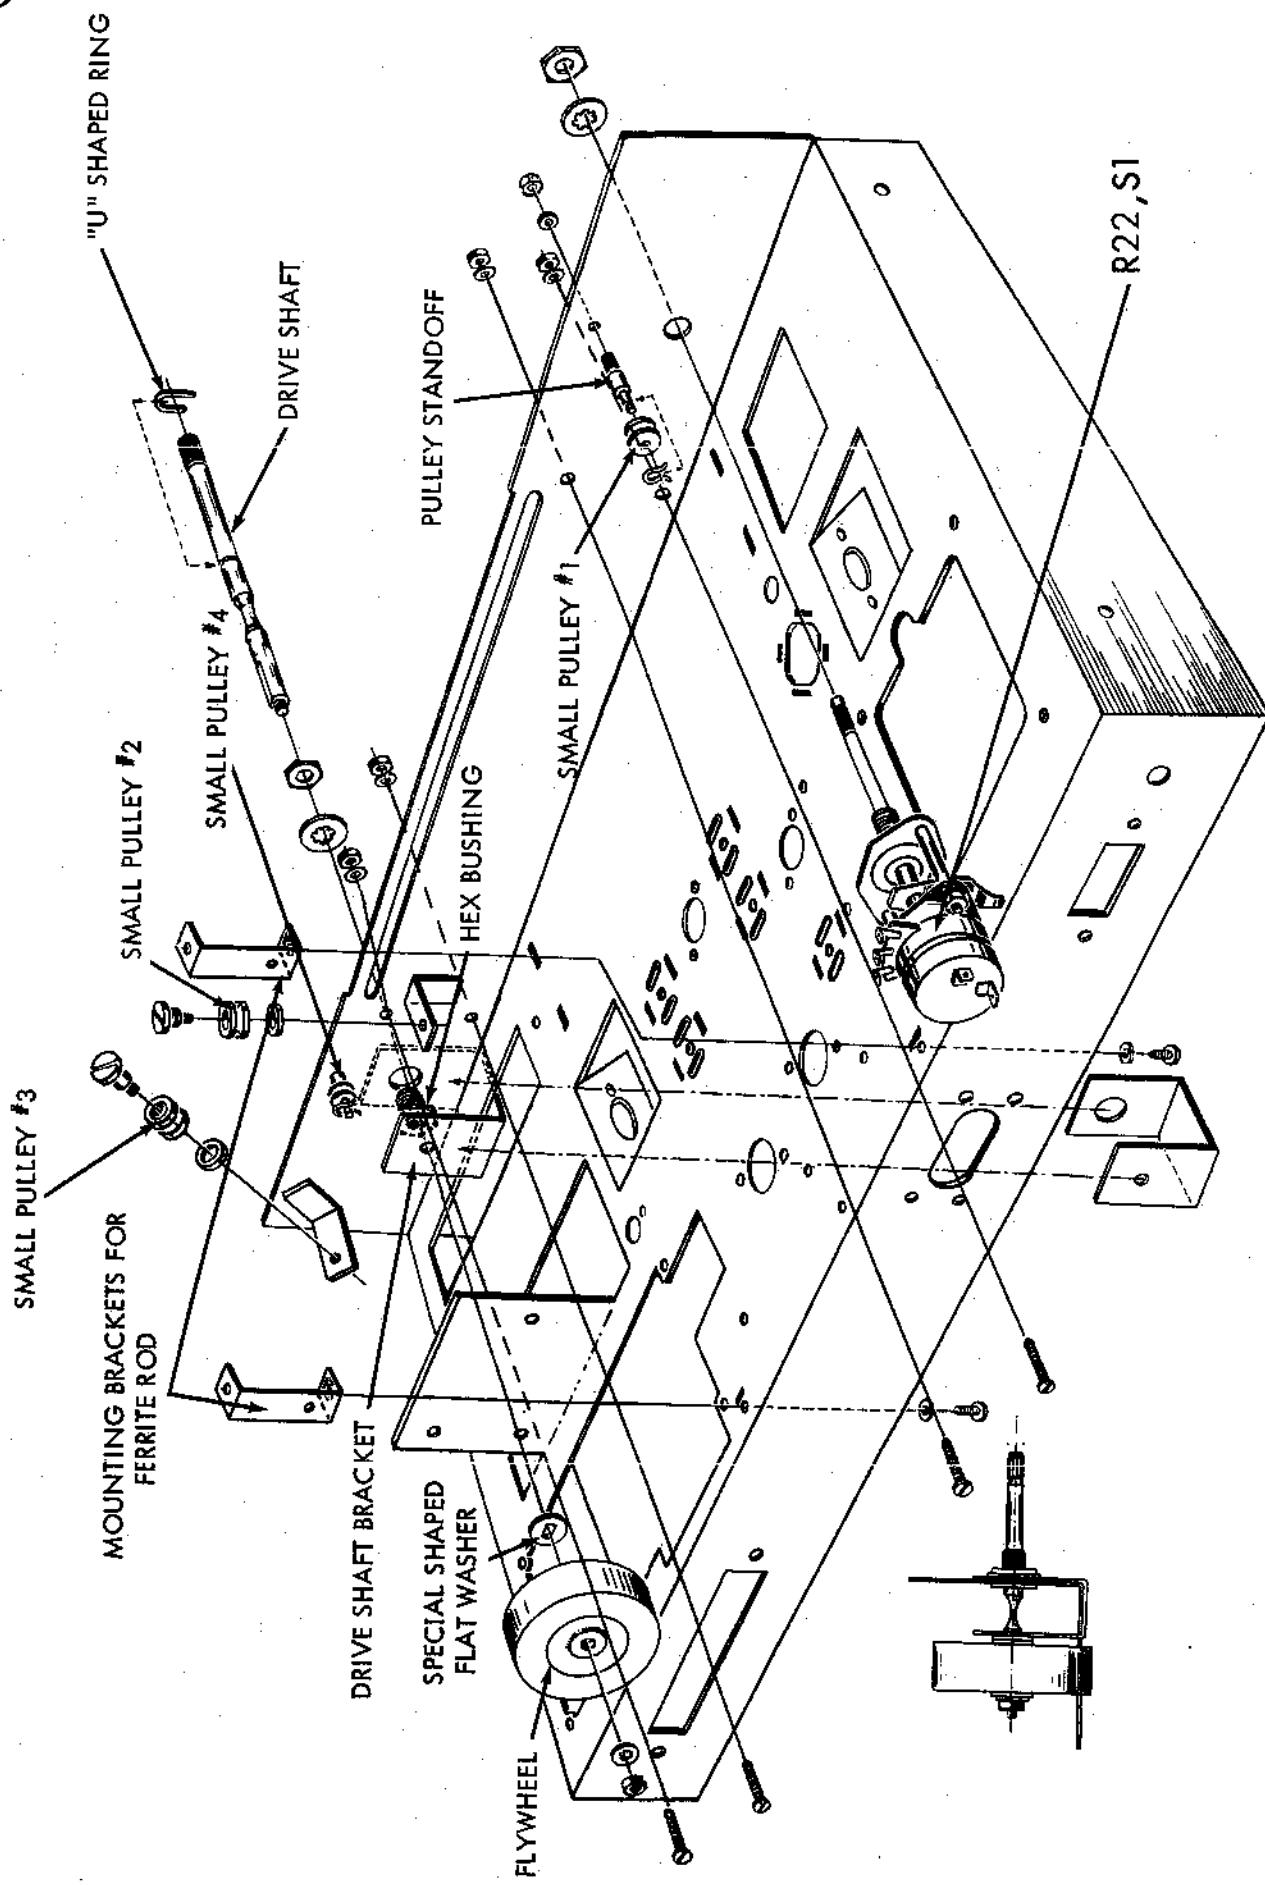

Fig. 1
- (a) 1. Fig. 1. Mount the drive shaft bracket from below the chassis as shown. Set the bracket in position so that the leg with the large hole rests against the front side of the chassis apron. Secure the 3/8 hex bushing (and the drive shaft bracket) in position with a 3/8 lockwasher and a 3/8 hex nut. Note that the leg with the larger hole against the front apron is mounted from the outside of the chassis. The bottom part of the bracket is below the chassis. Only the leg with the smaller round hole sticks out inside above the chassis and comes through the rectangular hole in the chassis.
- (b) 2. Fig. 1. Mount the potentiometer and switch combination, R22, S1, as shown. Note the lever from the shaft of the potentiometer extends through the rectangular hole underneath the component. Secure to the front chassis apron using one #3/8 lockwasher and one 3/8 hex nut.
- (c) 3. Fig. 1. Just above the potentiometer switch combination, R22, S1, mount the pulley standoff to the chassis. Use one #6 lockwasher and one #6-32 hex nut.
- (d) 4. Fig. 1. On the thin shaft of the standoff, mount the small pulley #4. Use a cotter pin to secure the pulley to the shaft.
- (e) 5. Fig. 1. Similar to steps numbers 3 and 4, mount the Small Pulley #4 on the front apron of the chassis, as shown.
- (f) 6. Fig. 1. Mount the small pulleys #2 and #3 to the angle brackets welded to the front apron on the chassis. Use one special #4 shoulder screw (upper shank unthreaded) and a #4 flatwasher on each. Place one pulley on top of each washer. Do not tighten the screws too much or the pulleys will bind and the threads will be damaged.
- (g) 7. Fig. 1. Mount the two ferrite rod mounting brackets to the top of the chassis near the rear edge. The small tab in one leg of each bracket fits through the rectangular slit in the chassis. Secure each bracket with a #6-32 x 1/4 screw and a #6 lockwasher.
- (h) 8. Fig. 1. Mount four #6-32 x 1 1/8 screws to the front apron. Use a #6 flatwasher and a #6-32 hex nut for each screw. The black backing plate and dial scale will be mounted later to these screws.
- (i) 9. Fig. 1. Close the "U" shaped ring around the annular groove on the drive shaft.
- (j) 10. Fig. 1. From the front of the chassis, pass the threaded end of the cord drive shaft through the 3/8 bushing and the small hole in the drive shaft bracket. The threaded end of the cord drive shaft is now protruding at the rear from the small hole in the driveshaft bracket. Over this threaded end, pass the specialty shaped flat washer, the flywheel, a #10 lock-washer and a #10-24 hex nut, in the order given. The flywheel will fit on the shaft only if the side of this flywheel having the three small circular indentations is facing toward the front of the chassis. Tighten the whole assembly. Note that the drive shaft must rotate freely. A position of the 3/8 hex nut can always be found which will permit free rotation of the drive shaft. Adjust the 3/8 hex nut a little bit at a time until you find a position at which the drive shaft does turn freely. Note that it is quite normal to find that the drive shaft will not turn freely if the 3/8 hex nut is either tightened or loosened slightly from a position at which the drive shaft does turn freely DO NOT thread the dial cord until free rotation of the shaft is assured. Check the three pulleys mounted in steps 4 and 5 above to be sure that they will rotate freely.